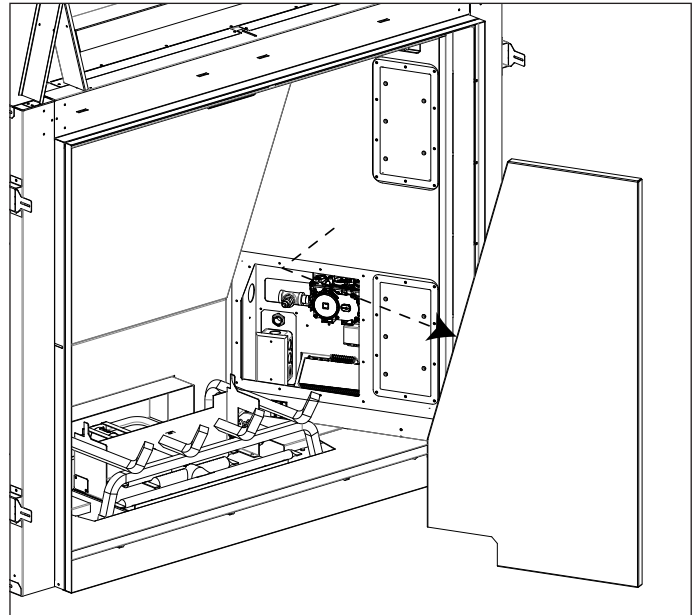

Figure 19: Right Liner Removal
5. Remove the right liner from the firebox. See Figure 19.